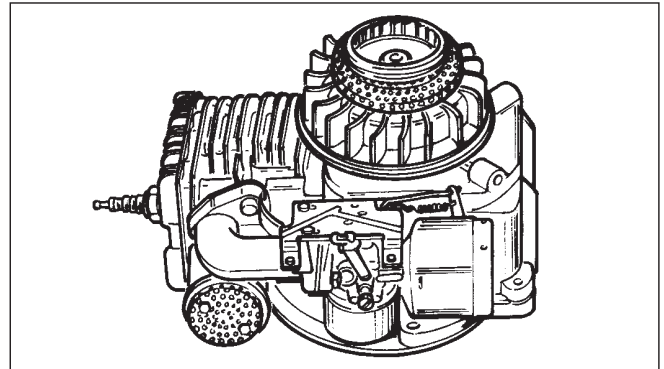

Fig. 2
- Remove air shroud complete with starter (Fig 2).